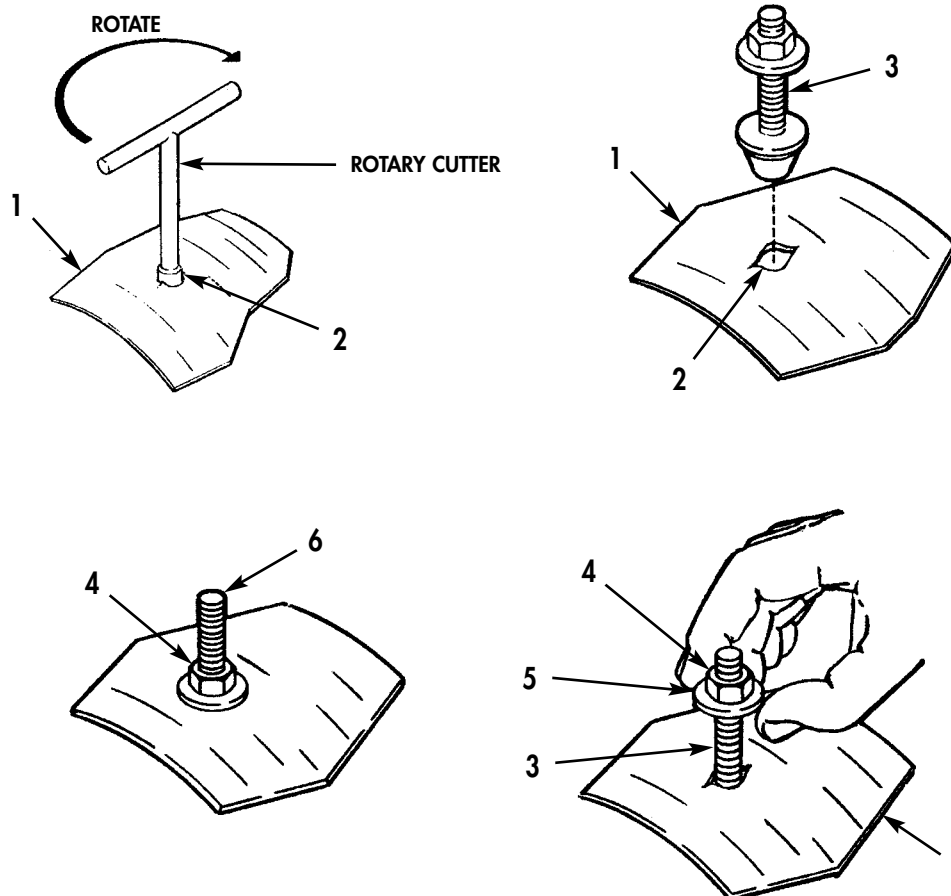

Figure 20. Plug Assembly Installation.
3. To seal puncture until permanent repair can be performed, install plug assembly (Figure 20, Item 3) as follows:
- a. Using rotary cutter supplied with drum repair kit, cut clean edge around puncture hole (Figure 20, Item 2) in drum body (Figure 20, Item 1).
- b. Install plug assembly (Figure 20, Item 3) on drum body (Figure 20, Item 1) by pushing rounded end of plug assembly (Figure 20, Item 3) through puncture hole (Figure 20, Item 2).
- c. Pull plug assembly (Figure 20, Item 3) so that rounded end is tight against inside surface of drum body (Figure 20, Item 1), and tighten nut (Figure 20, Item 4) until washer (Figure 20, Item 5) is snug.
- d. Using pliers supplied with drum kit, turn nut (Figure 20, Item 4) until tight, then cut off excess shank (Figure 20, Item 6) even with top of nut (Figure 20, Item 4).